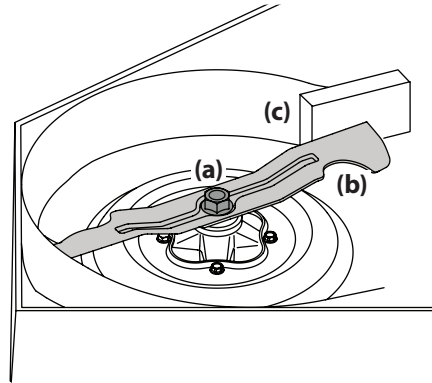

Figure 4-20
2. Use a $\frac{15}{16}$ " wrench to hold the hex nut on top of the spindle assembly when loosening the hex nut (a) securing the blade (b). A block of wood (c) may be placed between the deck housing and the cutting edge of the blade (b) to help in breaking loose the hex nut (a) securing the blade. See Figure 4-20.